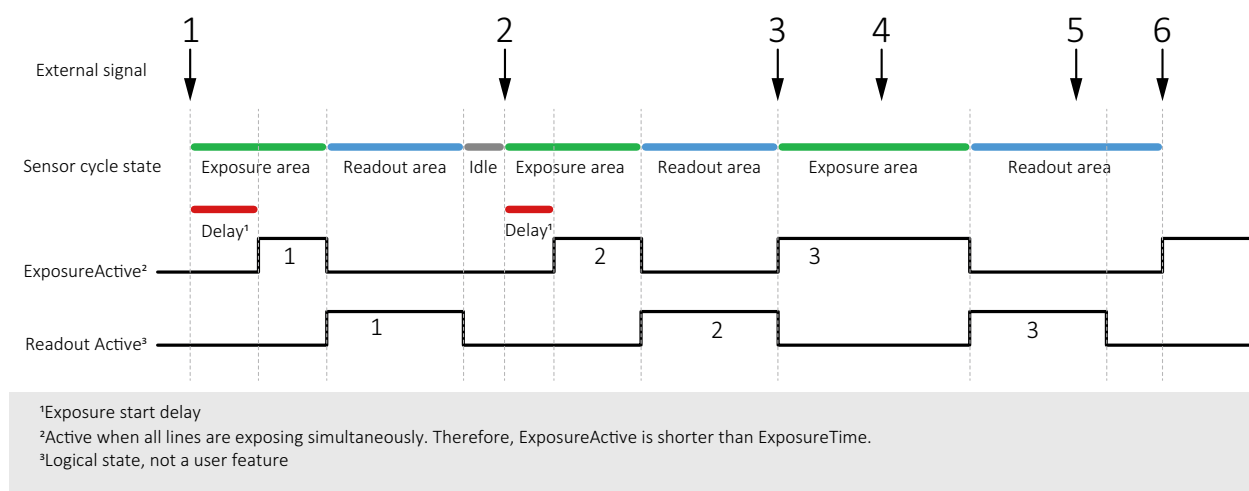

Figure 117: Triggering rolling shutter (RS) cameras
Figure 117 shows how an external signal triggers exposure and readout for cameras with rolling shutter (RS) sensors. Like for global shutter (GS) sensors, readout has a constant duration, acquisition must be active to enable exposure, the end of exposure starts readout.